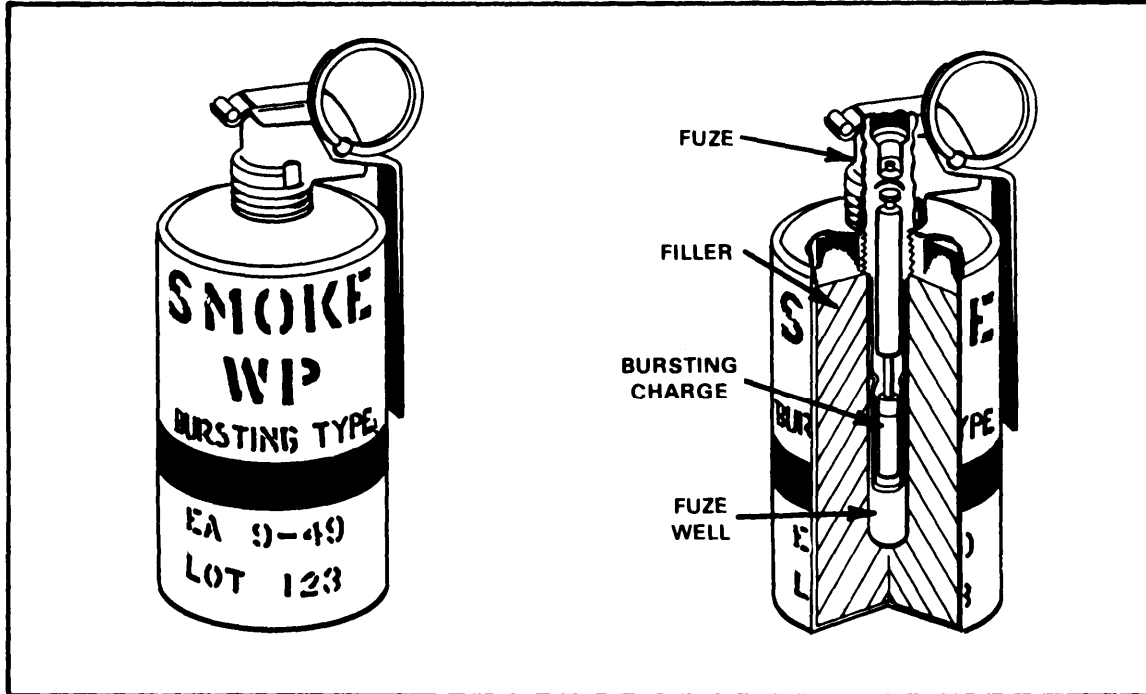

Figure 1-11. M15 WP smoke hand grenade.
a. M15 White Phosphorous. The M15 grenade (Figure 1-11) is a bursting type grenade used for signaling, screening, and incendiary purposes.
(1) Body -- sheet metal.
(2) Filler -- 15 ounces of white phosphorus.
(3) Fuze -- M206A2.
(4) Weight -- 31 ounces.
(5) Capabilities -- the average soldier can throw the grenade 30 meters. The grenade has a bursting radius of 17 meters. All friendly personnel within this 17-meter area should be in a covered position to avoid being struck by burning particles. The WP filler burns for about 60 seconds at a temperature of 5,000 degrees Fahrenheit. This intense heat causes the smoke produced by the grenade to rise quite rapidly, especially in cool climates. This makes the M15 grenade less desirable for use as a screening agent.
(6) Color/markings -- grey with one yellow band and yellow markings.
(7) First aid -- treat burns caused by WP in the same way as ordinary burns (FM 21-11). If particles of WP are embedded in the flesh, immerse the wound in water or pack with wet cloths to halt combustion. Then pick out or squeeze out the WP. The particles will reignite spontaneously if allowed to dry. Apply copper sulphate solution to halt combustion of the WP particles. This permits them to be removed without igniting.